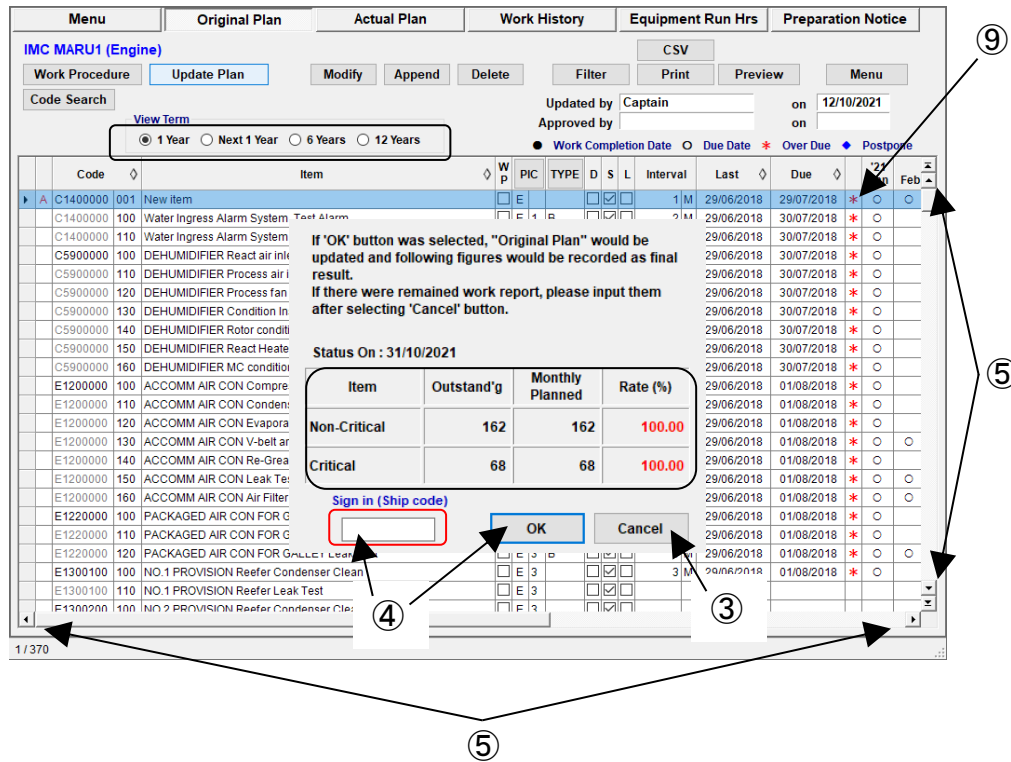
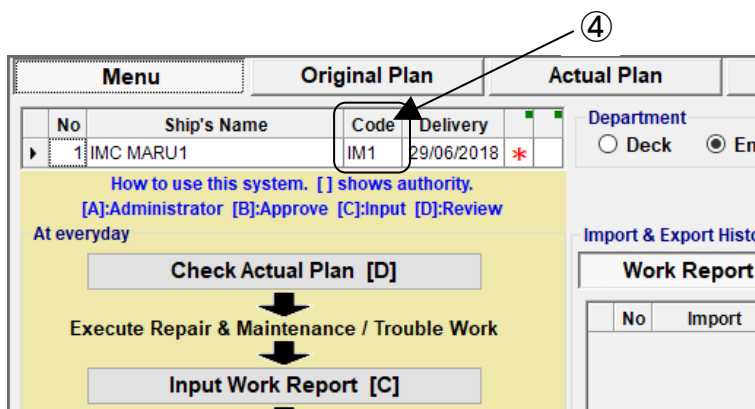

Fig.11-2 Original Plan Screen
Fig.11-3 Original Plan Screen
(2) "Original Plan Screen"(Fig.11-2) and confirmation message are displayed and you can confirm Outstand'g rate on the end of previous month. At the moment, Original Plan is not updated yet.
(3) If Outstand'g rate is higher than assumed rate, select [Cancel] button to stop updating Original Plan. Then, open "Actual Plan" screen and check work report for previous month.
(4) If there is no problem with the Outstand 'g rate, enter the Ship Code in the red frame and click the [OK] button. The Ship Code is displayed in the upper left of the Menu screen (Fig. 11-3).